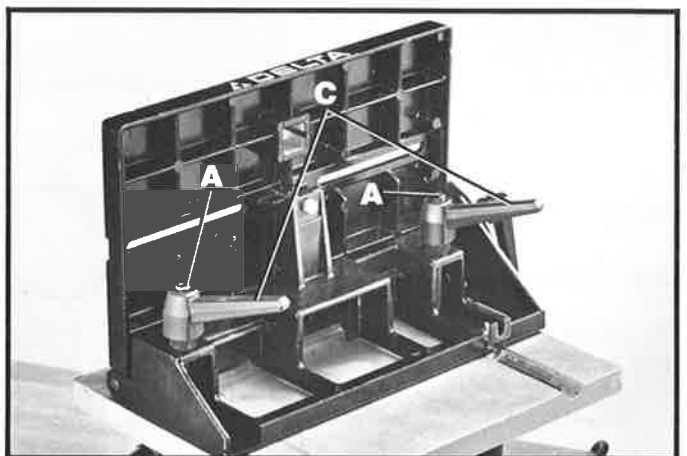

Fig. 5
8. Replace the locking handles (C) Fig. 5, spring and screw (A) to shaft assemblies. These items were removed in **STEP 4**. Tighten handles (C) to lock the table in position. **IMPORTANT: WHEN TIGHTENING TABLE LOCK HANDLES (C) ALWAYS TIGHTEN THE RIGHT HAND HANDLE FIRST TO INSURE TABLE IS LEVEL ON BOTH SIDES.** **NOTE:** Lock handles (C) are spring loaded and can be repositioned by pulling out on the handle and repositioning it on the serrated nut located underneath the hub of the handle.